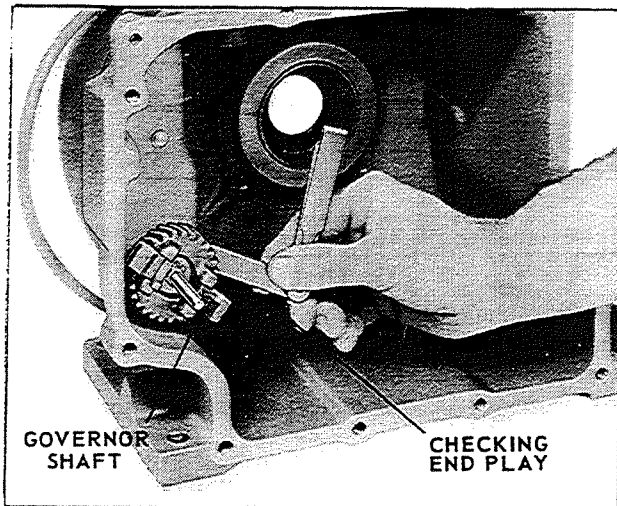

Fig. 34
**Reassembly** is made in reverse order. Maintain a clearance of .003 to .005" between gear hub and face of governor shaft boss in crankcase, see Fig. 34. This end play can be adjusted by tapping the governor shaft in either direction. Clearance between shaft and gear is .0005 to .002". When clearance becomes .005", replace worn parts.